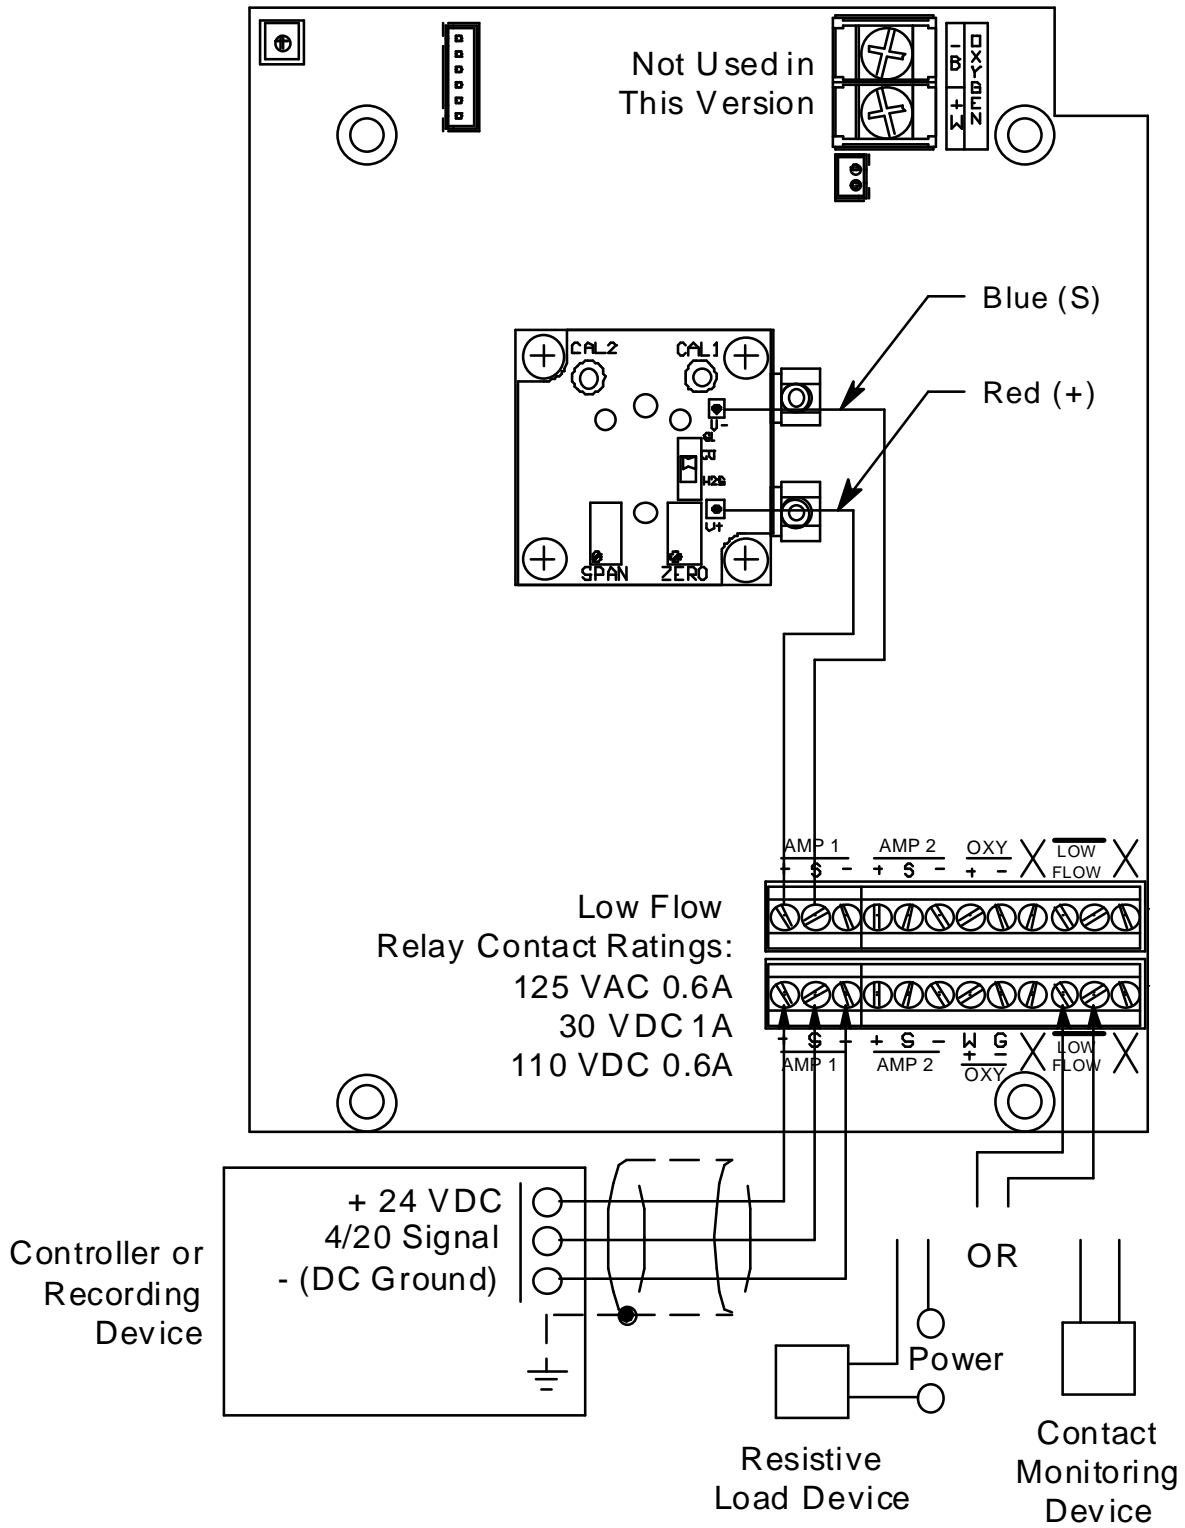

Figure 5: Wiring the Sample-Draw Detector to a Controller
5. Connect the cable to the sample-draw detector’s interconnect terminal strip as shown in Figure 5.
- Connect the wires to the applicable detector/transmitter terminal strip at the controller as shown in Figure 5. Refer to the controller operator's manual and the controller detector head specification sheet for the 35-3001-04-01 for detector/transmitter terminal strip connections specific to the controller.